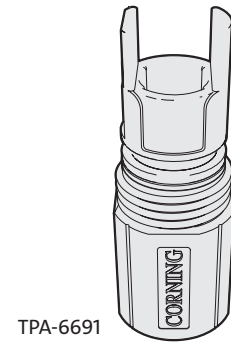

Figure 14
Step 1: Make sure coupling nut is assembled on the converter housing. The threads on the coupling nut should be facing towards the tangs on the housing. (Figure 14)